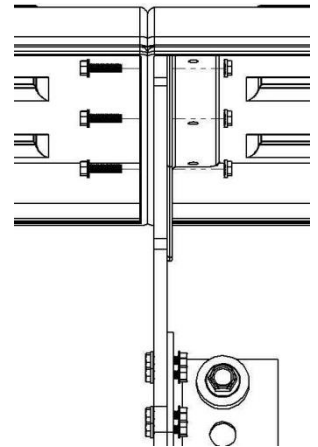

Figure 7
F. Install center bracket as close where the two fenders join together as possible (Figure 7).